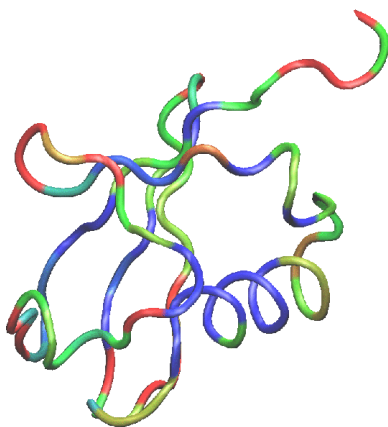

Figure 9: Ubiquitin colored by the average RMSD per residue. Red denotes more mobile residues, and blue denotes residues which moved less during equilibration.
- * **9** Choose the Graphics → Colors... menu item. Choose the **Color Scale** tab. In the **Method** pull-down menu, choose **BGR**. Your figure should now look similar to Fig. 9.